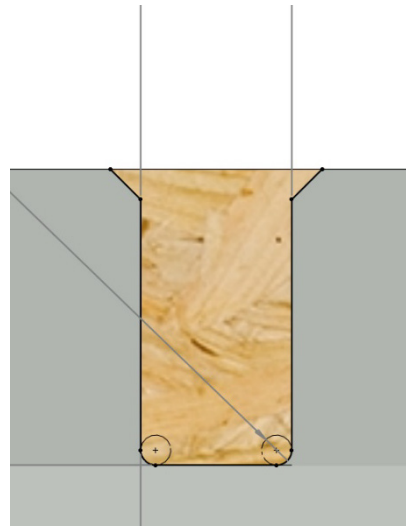

Figure 22 – Upstand drill section.
2. Drill x 2 by 10mm holes as indicated, jigsaw out remainder of shape leaving radiused corners at bottom. Chamfer top corners as shown to aid installation – *see figure 22.*